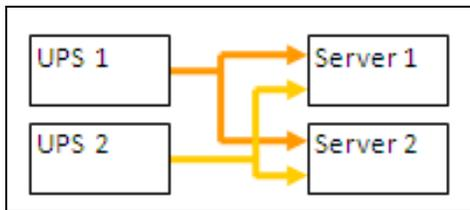
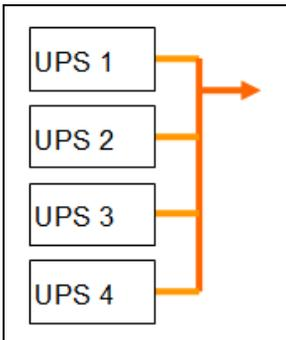

Figure 109. Redundant Supplies
Figure 112. Parallel Redundancy Schema
Figure 109 to Figure 112 illustrate the electrical redundancy topologies.
- **Redundant supplies (such as dual feeds or triple feeds):** Figure 109 illustrates a scenario when two UPSs provide power on one or several multiple-feed servers.